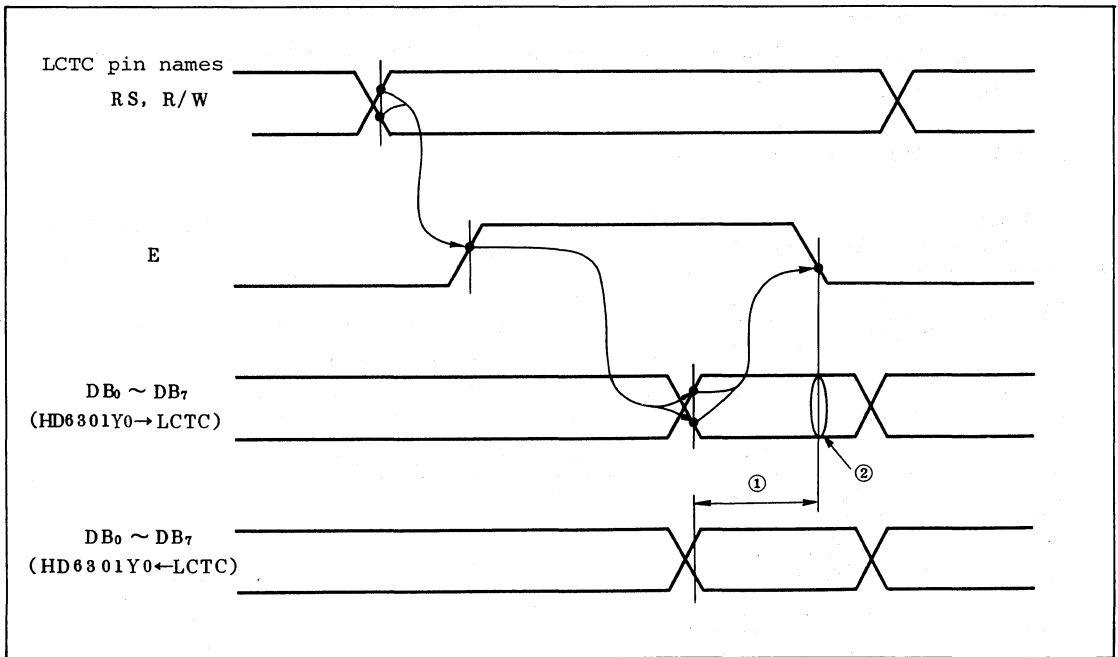

Figure 1-2. HD6301Y0  $\leftrightarrow$  LCTC Interface
The timing chart for interfacing between the HD6301Y0 and each signal is shown in figure 1-2. ① and ② in figure 1-2 show timing for read and write.
- ① Data from LCTC can be read during ① period.
- ② Data can be written to LCTC at the falling edge of signal E.